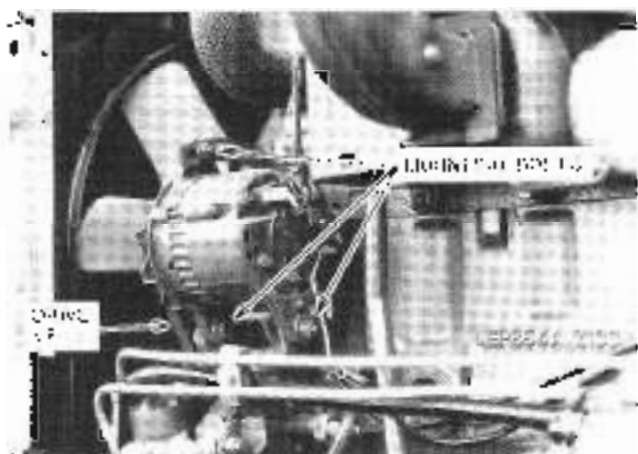

Figure 55 - Alternator Mounting Bolts
1. Turn the alternator mounting bolts (Figure 55).